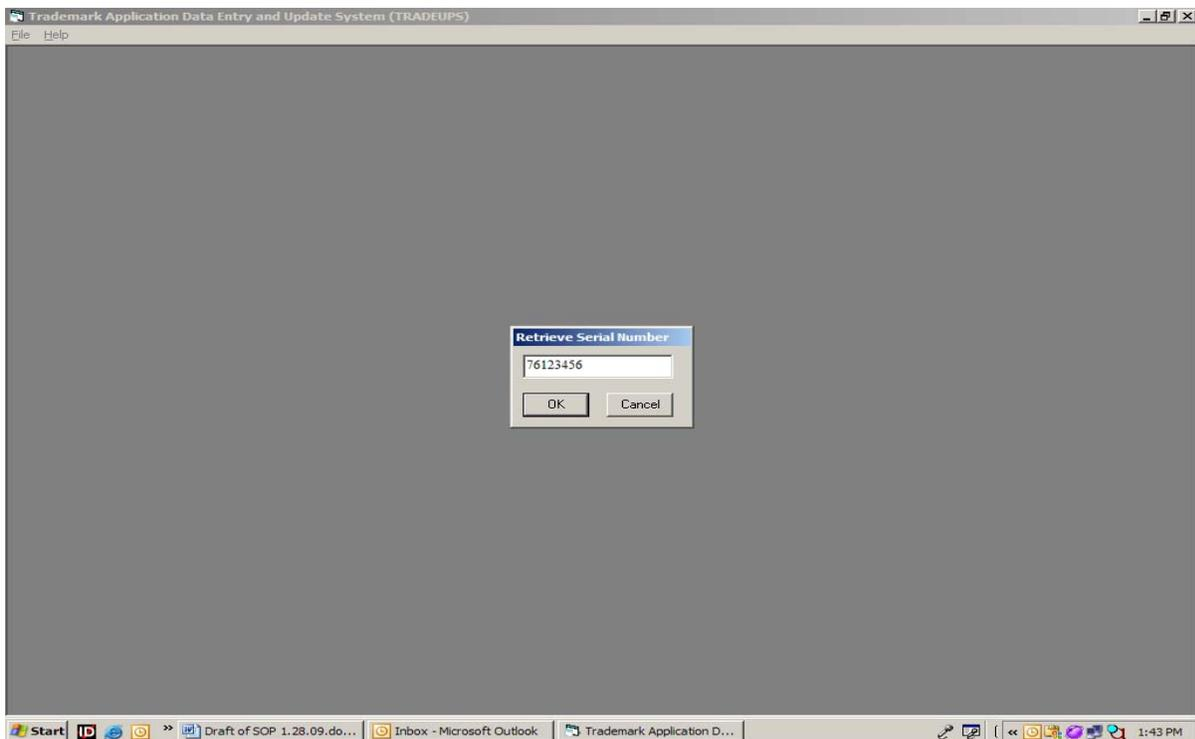
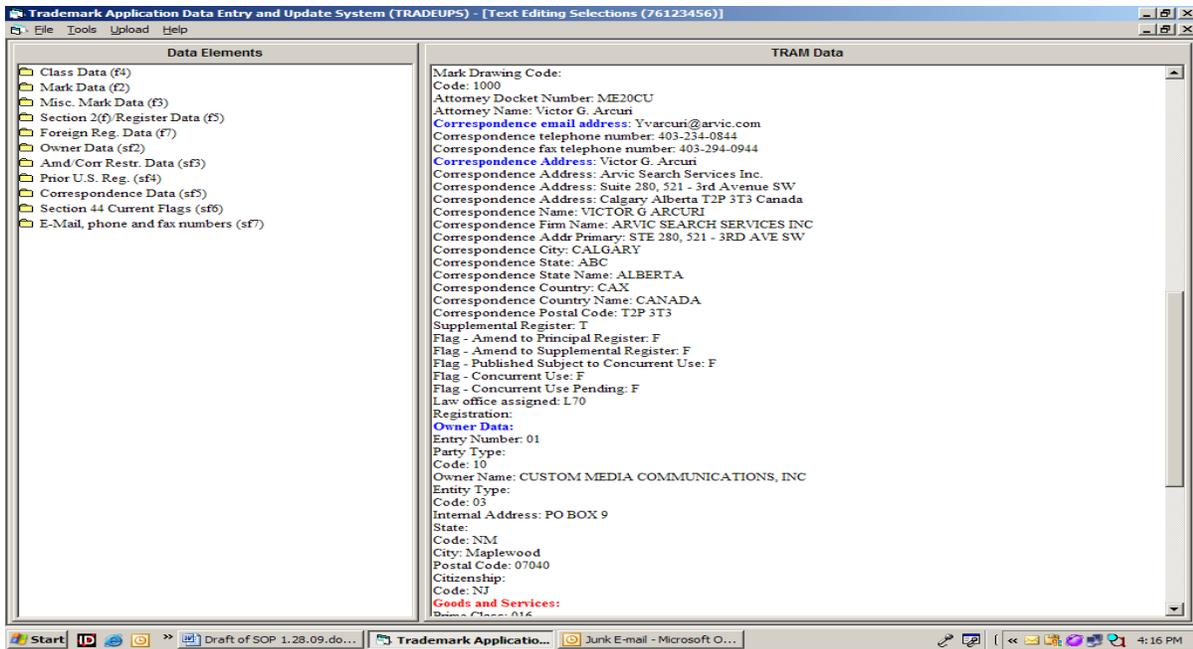

Figure 1-26 The prompt screen to enter serial number
Figure 1-27 “The Data Elements” screen to text edit
Step 7: Enter serial number of application to be processed and click OK (Figure 1-26). Entering the serial number will open the Data Element screen for text editing (Figure 1-27).